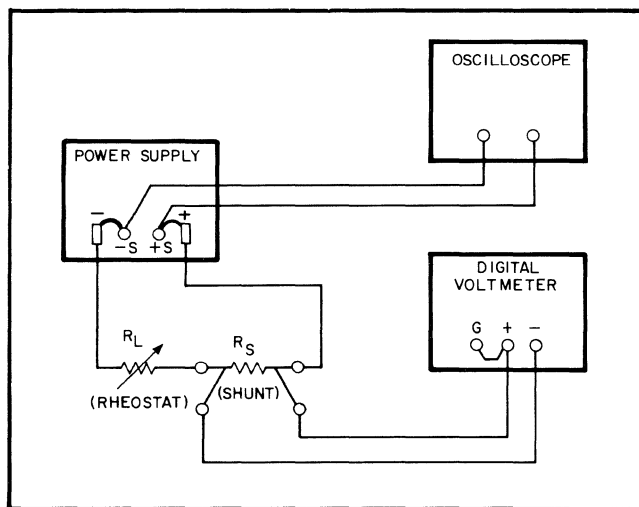

Figure 5-10. Current Limit Adjustment Setup
- With power disconnected make setup shown in Figure 5-10.